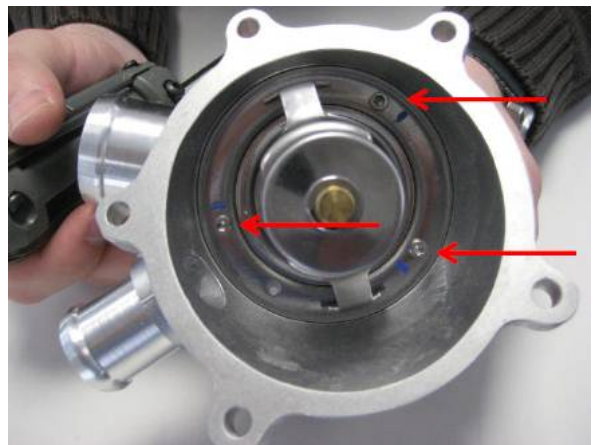

Figure 1. Remove the three Allen screws (red arrows) to remove the thermostat.
2. Note the position of the thermostat element within the housing. Remove the thermostat element by removing the three Allen screws (Figure 1).